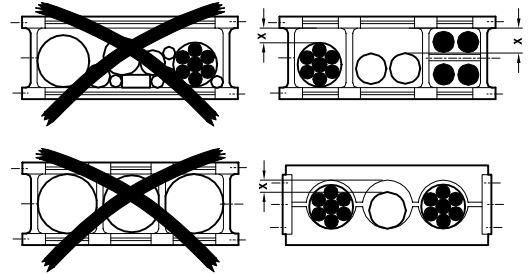

Fig. 1
- Lay the cables loose next to each other in the chain links, if possible separated from each other by separator links or holes. Observe the play "X" of the cables of 10% of the cable diameter. Avoid arrangements with cables on top of each other if separator links are not used (see Fig. 1)